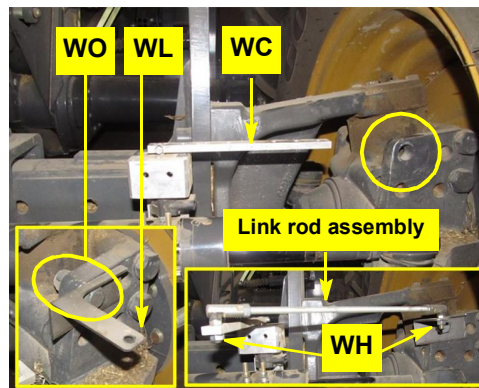

Figure 2c: WAS link rod mounting bracket and link rod installed
- d. Using hardware **WO** mount link rod bracket **WL** on the rear face of the stub axle. Install the bracket—pointing rearward and ‘over’ **WO**—in the top left (as viewed) hole in the face (Figure 2c and left inset).
- e. Using hardware **WH** install the link rod assembly from step 1—swivel studs downward—between the last hole in WAS arm **WC** and **WL**. Leave **WH** loose (Figure 2c right inset).